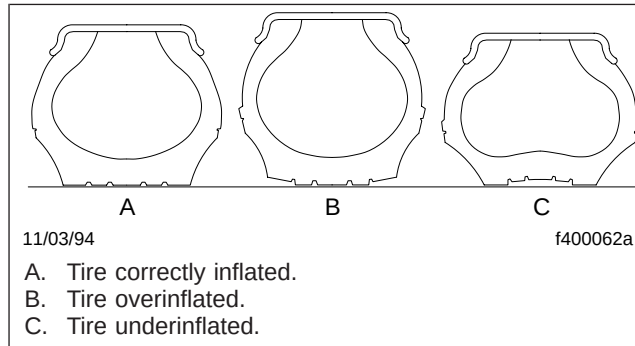

Fig. 11.7, Tire Inflation
43.1 Overinflation gives the treaded surface of the tire a convex shape (**Fig. 11.7**). This causes extreme tire wear in the middle part of the tire since this section is primarily in contact with the road.
Underinflation gives the tread surface a concave shape (**Fig. 11.7**). This causes excessive tire wear on the outer edges of the tire since they are primarily in contact with the road.